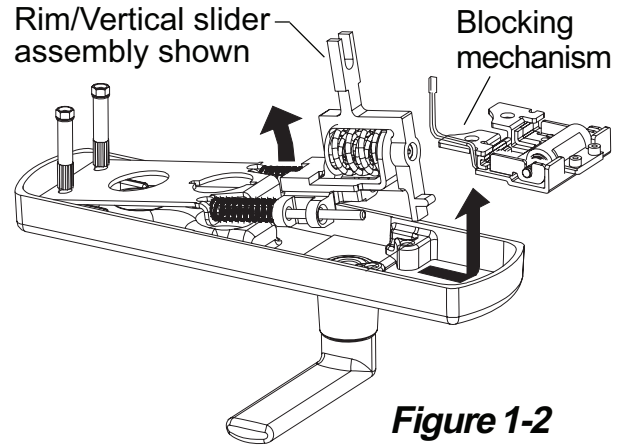

Figure 1-2
1.2. For change in function, lift slider assembly up at an angle and remove blocking mechanism (Figure 1-2).
For upgrade kit, remove slider assembly and replace with new slider assembly (Figure 1-2).